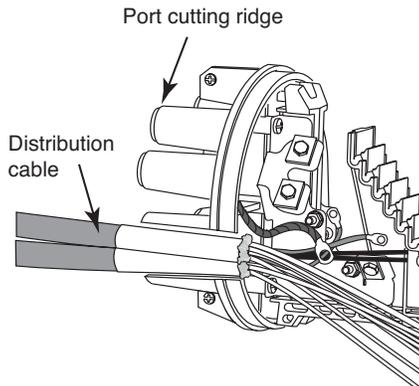

Figure 14
2. Cut the end off the selected port at the ridge with a hacksaw (Fig. 14).
3. Insert the cable(s) through the port. Align each cable so that the sealed end of the cable block (if present) is flush with the inside edge of the opened port. If no cable block is used, align inside edge of port with the end of the vinyl tape wrap (loose buffer tube cable), or the distribution funnel cap (central core tube cable). For cables installed in the oval port, place the distribution (out) cable on top, and the feeder (in) cable on the bottom. (Figure 14)